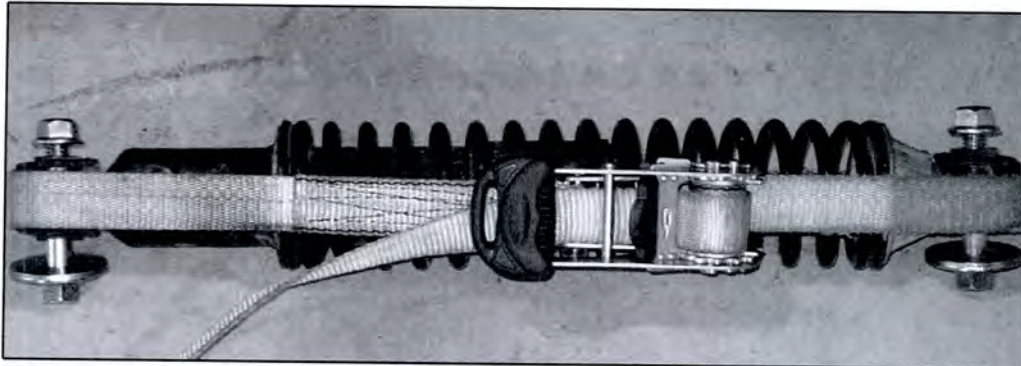

Figure 3. Reference photo of ratchet strap compressing the shock.
6. Using a ratchet strap, carefully compress the shock to achieve enough slack for belt removal from the fan clutch pulley (refer to Figure 3).